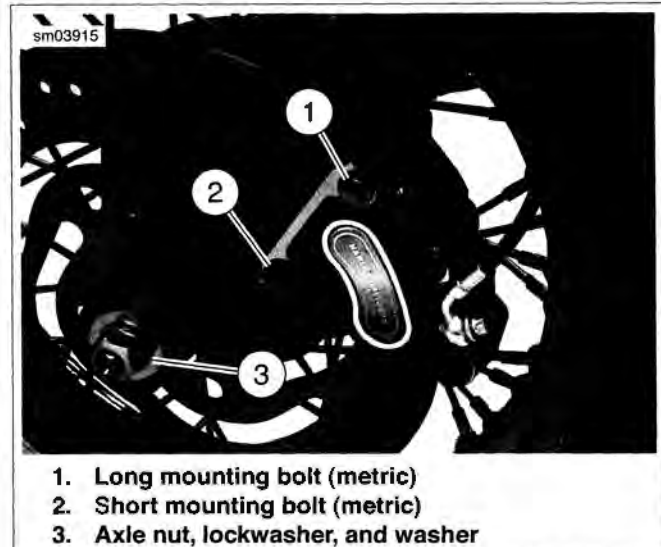

Figure 2-3. Front Caliper and Axle Mounting (Left Side)
3. See Figure 2-3. Remove brake caliper. Support caliper using a rubber bungee cord. Be careful not to scratch the fender paint.
3. See Figure 2-3. Install the washer and axle nut (3). Insert screwdriver or steel rod through hole in axle on right side of vehicle. While holding axle stationary, tighten axle nut to 60-65 ft-lbs (81.3-88.1 Nm).
5. See Figure 2-3. Install the brake caliper to the fork leg using the long mounting bolt (1) (metric) in top hole and the short mounting bolt (2) (metric) in bottom hole on fork leg.